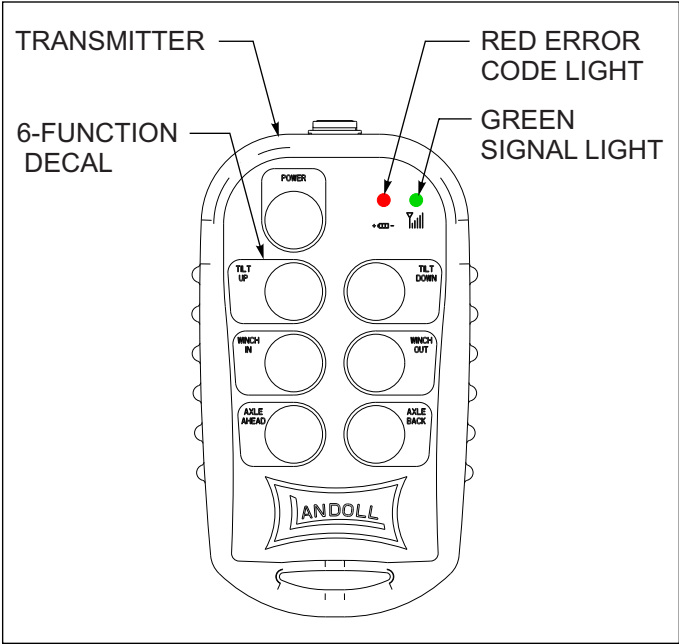

Figure 3-13: Remote Control Transmitter
1. A wireless six function radio remote control is available (See Figure 3-13.)